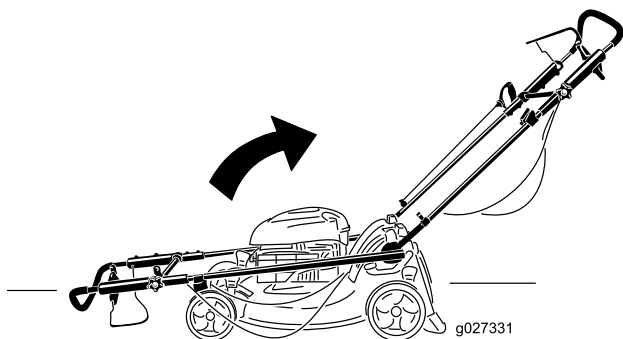

Figure 4
2. Unfold the handle as shown in Figure 4.